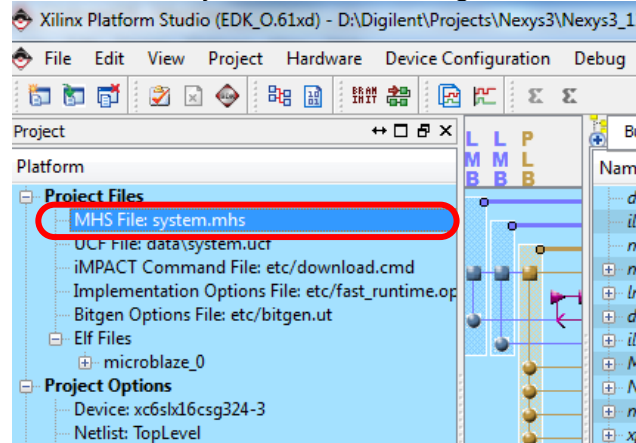

Figure 4. Opening the .mhs file in Platform Studio
- a. In the Project pane, double-click the system.mhs file, as Figure 4 below shows: